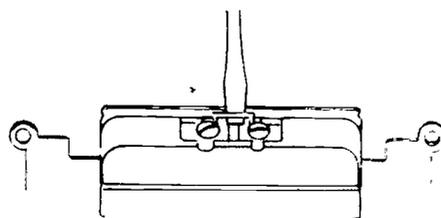

FIGURE 6
M. Break connecting fin from ungrounded side of receptacle (Figure 6)